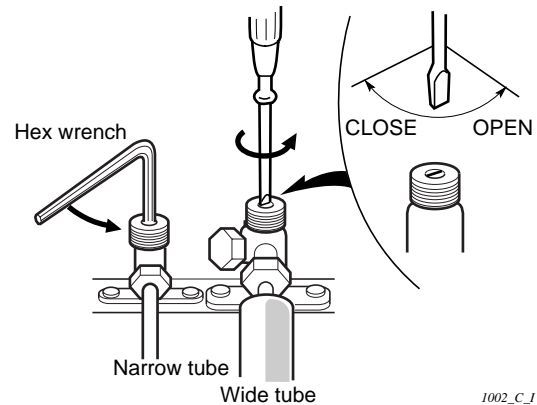

Fig. 11-6
- (1) With a hex wrench, turn the narrow tube service valve stem counterclockwise to fully open the valve. (Fig. 11-6)
- (2) With a screwdriver, turn the wide tube service valve stem counterclockwise to fully open the valve. (Fig. 11-6)